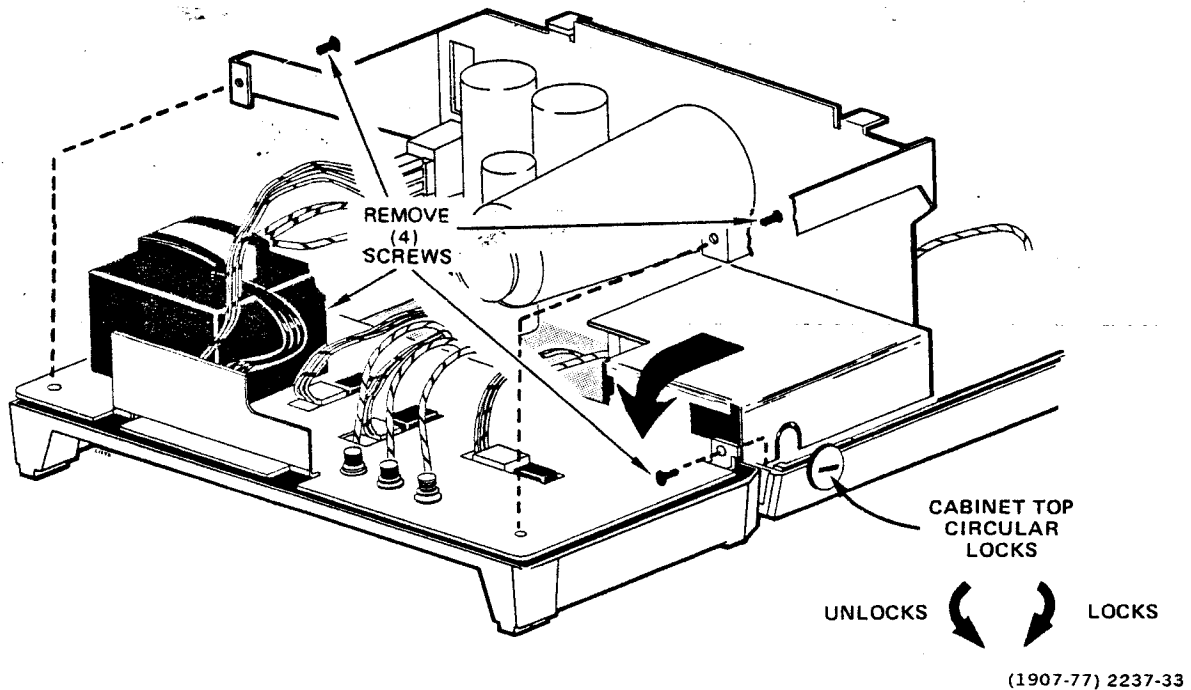

Figure 5-5. Rear panel removal.
(1) Using a coin or large bladed screwdriver, rotate the three circular locks on each side of the cabinet (see Figure 5-5) counterclockwise until the slots are vertical.
(2) Lift the cabinet top straight up.
(3) Remove the nine screws holding the EMI Shield (6 on left side near the front, 2 on the top at the rear, and 1 on the top right at the front).
(4) Lift the EMI Shield straight up.
(5) Replace the EMI Shield and cabinet top in reverse order.
(3) Bend grooved part of holder so that connector is inserted into groove.
(4) When plugging connector holders on to board pins, be sure to match triangle mark on holder with triangle mark on circuit board.
c. Rear Panel Assembly Removal and Replacement (Figure 5-5).
(1) Remove the cabinet top.
(2) Unplug the power cord.
(3) Unplug the coaxial connector end at the +A GATE OUT (white wire with yellow trace) and CH 2 OUT (white wire with brown trace) connectors located on the A8 Sweep and A5 Vertical boards, respectively.
(4) Remove the four screws on the inside corners of the rear subpanel.